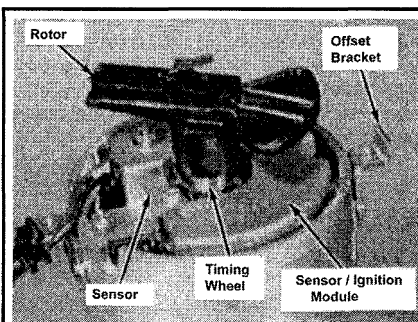

Fig. 121 A close-up of the BID distributor with the cap removed...
- ◆ See Figures 121, 122 and 123